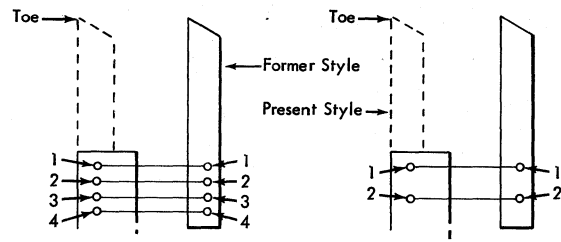

Figure 47. Punch and Extension
Punch Penetration (Printing Punch). Satisfactory punching should result from the print magnet yoke adjustment given in the Print Unit section. On machines without adjustable penetration (Figure 47) the yoke adjustment must be altered and the printing pressure readjusted if additional penetration is needed.
Two different die and stripper clearances have been used. Some machines have an opening of .020-inch to .026-inch. Current machines are set at .012-inch to .017-inch. On the .020-inch to .026-inch die and stripping machines, the number 2 hole is used as a starting point (Figure 47). Current machines use the number 1 hole as a starting point. As the retaining pin is moved to the next higher numbered hole, .010-inch more punch penetration is obtained. **NOTE:** Always insert the retaining pin in identically numbered holes in both the extension and punch.
2. Slide plate off its guide pins and punch extensions (Figure 47). Any punch is accessible by lifting extension over associated punch operating arm and pulling it straight out.